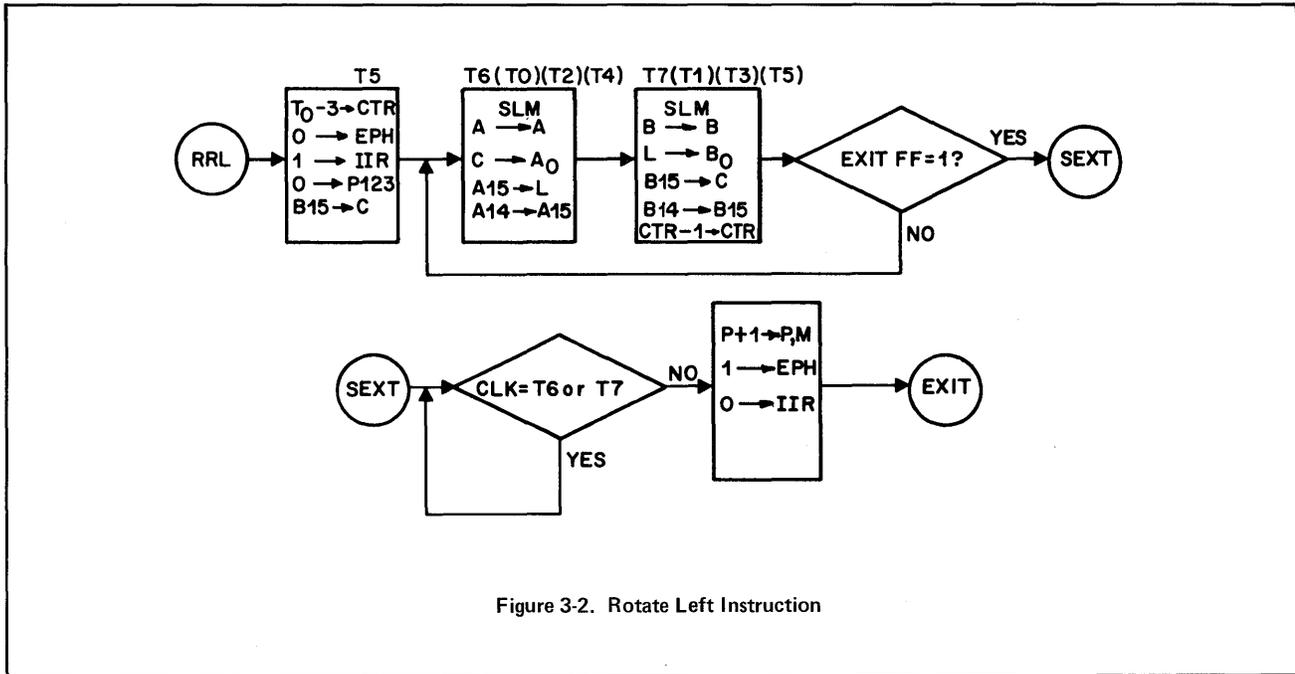
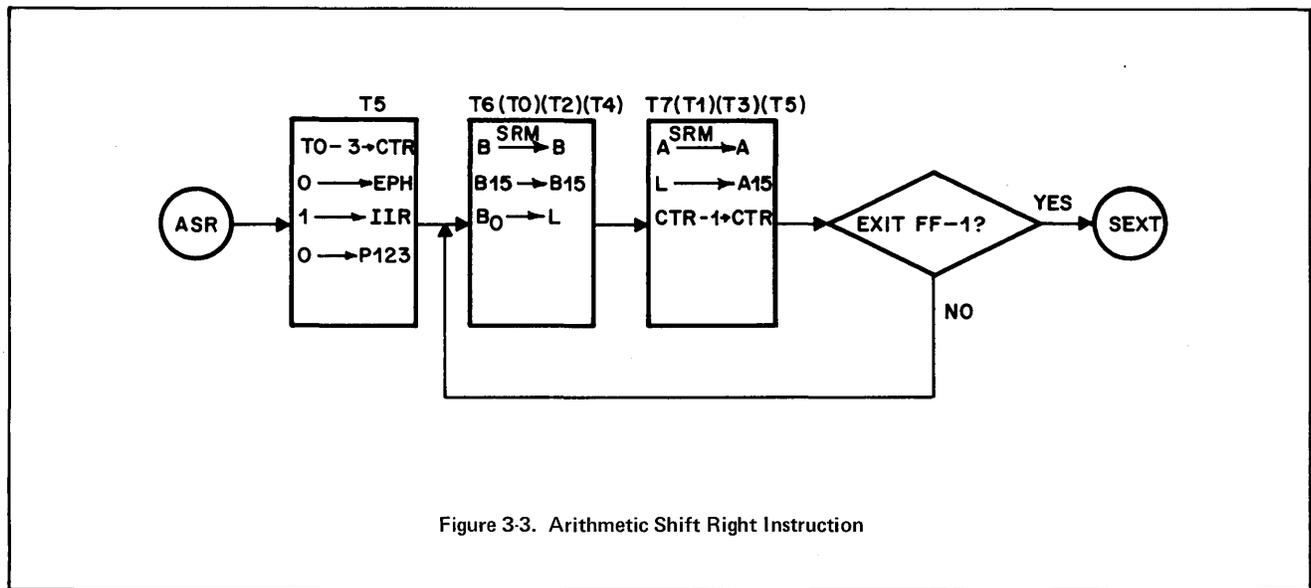
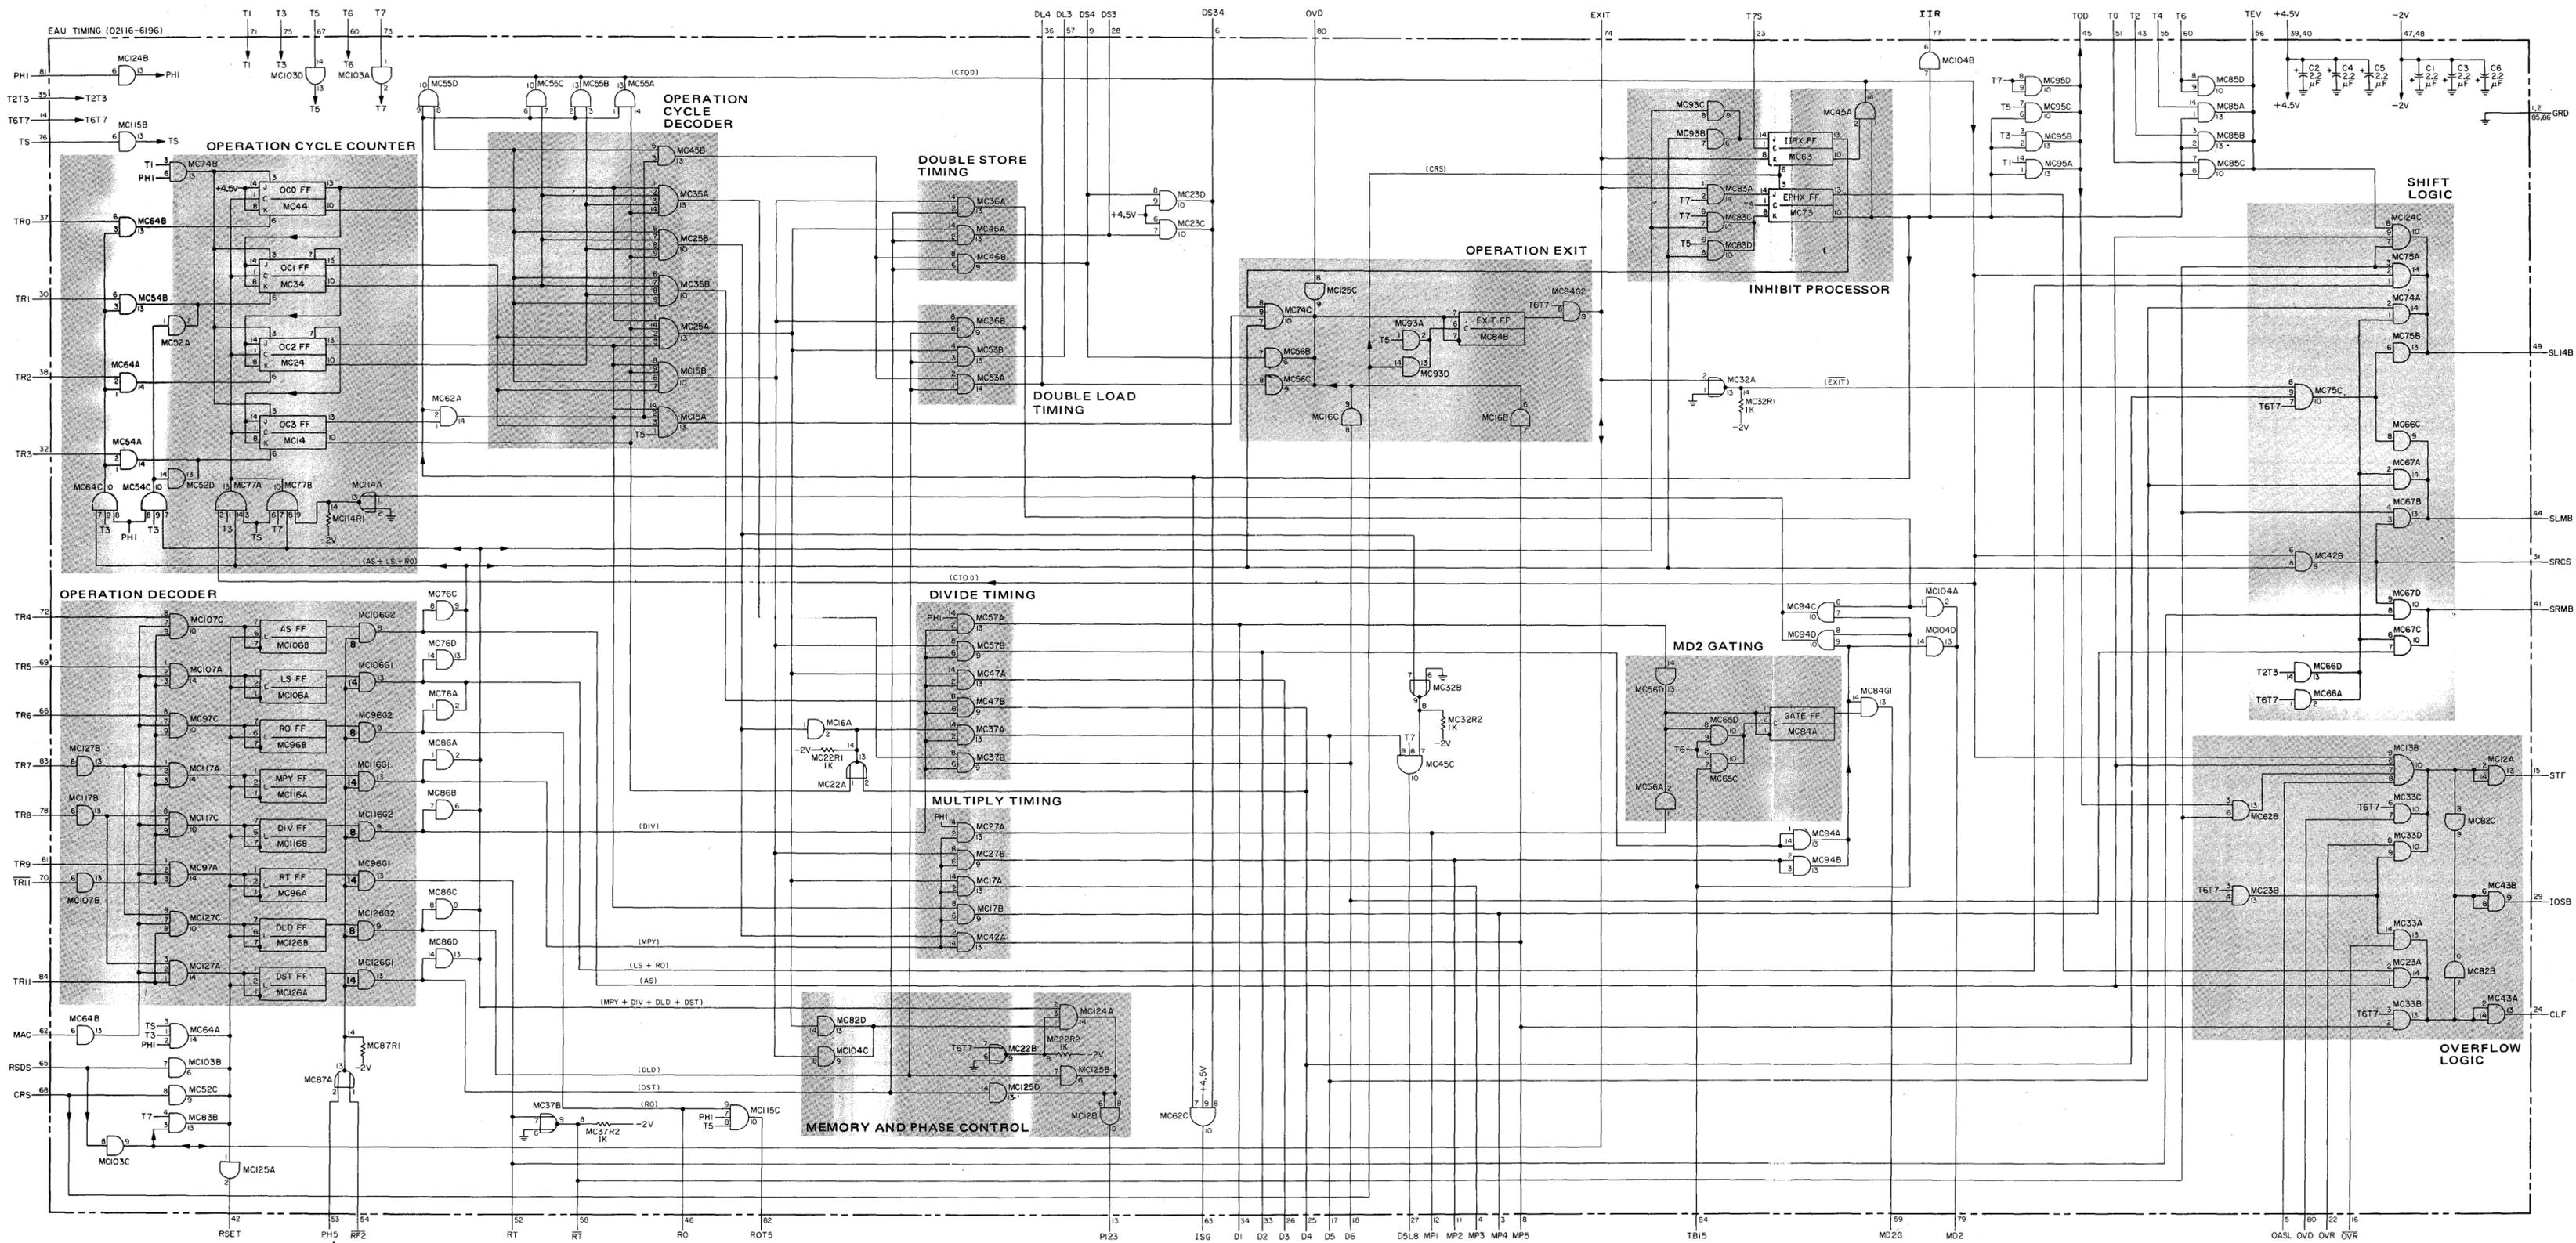

Figure 3-2. Rotate Left Instruction
Figure 3-3. Arithmetic Shift Right Instruction
Figure 3-12. EAU Timing Card Logic
The number of rotates to be performed, 3 in our example, will be applied as one true binary input to the reset side of the Operation Cycle Counter Flip-Flops located on the EAU Timing Board (Figure 3-12). The RRR instruction will make bits 6, 9 and 15 true. Bit 6 will set the Right Shift or Rotate (RT) Flip-Flop. The enabling signal for these flip-flops is the MAC signal which is true when bit 15 = 1, 14 = 0, 13 = 0, 12 = 0, and 10 = 0. This signal enters on pin 62 and is the enabling input to the gates that will set the RO (Rotate) and RT Flip-Flops. The flip-flops will be set on T3T5 of PH1 by the output of MC115A. At T5, T Register bits 0 thru 3 are read into the Operation Cycle Counter. The enabling signal to the Enable Phase Flip-Flop (EPHX FF) is false and therefore a change of phase is not permitted. Also, the signal to inhibit the I Register (IIR) is true, preventing the I Register from losing the instruction. Since RO and RT are set, A Register bit 0 is rotated into the Carry Flip-Flop (Figure 3-12) via the TBO line. At T6, the contents of the B Register are rotated right one bit position. The Carry Flip-Flop (CARX FF) contents are now rotated into B Register bit 15 and B Register bit 0 is rotated into the Link Flip-Flop. At T7: the A Register contents are rotated right one bit position; the contents of the Link Flip-Flop are rotated into A Register bit 15; A Register bit 0 is rotated into the Carry Flip-Flop; and the Cycle Counter contents (minus one) are shifted back into the counter. Also at T7; the Exit Flip-Flop is looked at and, if reset, the operations that took place at T6 and T7 are repeated until the Exit Flip-Flop is set. When the Exit Flip-Flop is set (and it is T6 or T7), the T6T7 clock cycle must be repeated. Then at T6T7 of the current clock cycle, the P Register is incremented and the results are stored back into the P and M Registers. The signal (P123) to enable the phase is now made true. This is accomplished by the true exit signal which enters at pin 74 on the Timing board. At T7 of the clock cycle, MC83A is enabled and the Enable Phase (EPHX) Flip-Flop is set. The signal to IIR is now false and the I Register is permitted to reset. This ends the RRR instruction operation.
3-16. The Rotate Left (RRL) instruction flowchart is shown in Figure 3-2. The number of rotates to be performed (3 in our example) will be coded in bit positions 0 thru 3. The bit positions that are true are applied as an enabling signal to reset the Operation Cycle Counter Flip-Flops (Figure 3-12). Bit 6 being true will set the Rotate (RO) Flip-Flop (MC96B). Bits  $\overline{15}$ ,  $\overline{14}$ ,  $\overline{13}$ ,  $\overline{12}$ , and  $\overline{10}$  will enable the MAC signal. At T5, T Register bits 0 thru 3 are read into the Operation Cycle Counter. The enable phase signal (EPHX) is now made false and a true IIR signal is enabled to the Instruction Register. A false signal is also sent to Phase 123, and B Register bit 15 is rotated left into the Carry Flip-Flop. At T6 a SLM signal rotates the A Register left one position and the contents of the Carry Flip-Flop are rotated left into A Register bit 0. The A Register bit 15 is then rotated left into the Link Flip-Flop, and A Register bit 14 is rotated left into A Register bit 15. At T7 a SLM signal rotates the B Register left one position. The Link Flip-Flop contents are then rotated into B Register bit 0 and B Register bit 15 is rotated into the Carry Flip-Flop. The B Register bit 14 is rotated into bit 15, and a minus one is shifted into the Cycle Counter.
3-19. The Arithmetic Shift Right (ASR) instruction flowchart is shown in Figure 3-3. The ASR routine begins at T5 with T Register bits 0 thru 3 applied as a reset signal to the Operation Cycle Counter on the Timing board (Figure 3-12). A reset signal is then applied to the Enable Phase Flip-Flop. Resetting the